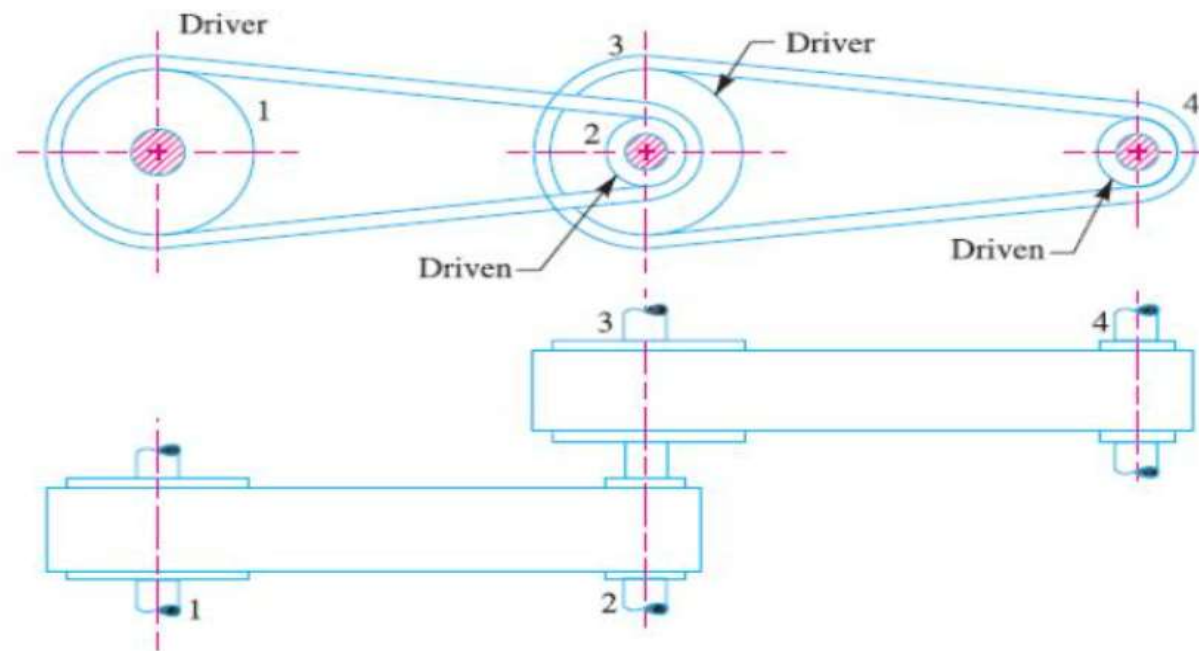

Fig. 9. Compound belt drive.
e) *Compound belt drive. A compound belt drive as shown in Fig. 9, is used when power is transmitted from one shaft to another through a number of pulleys.*